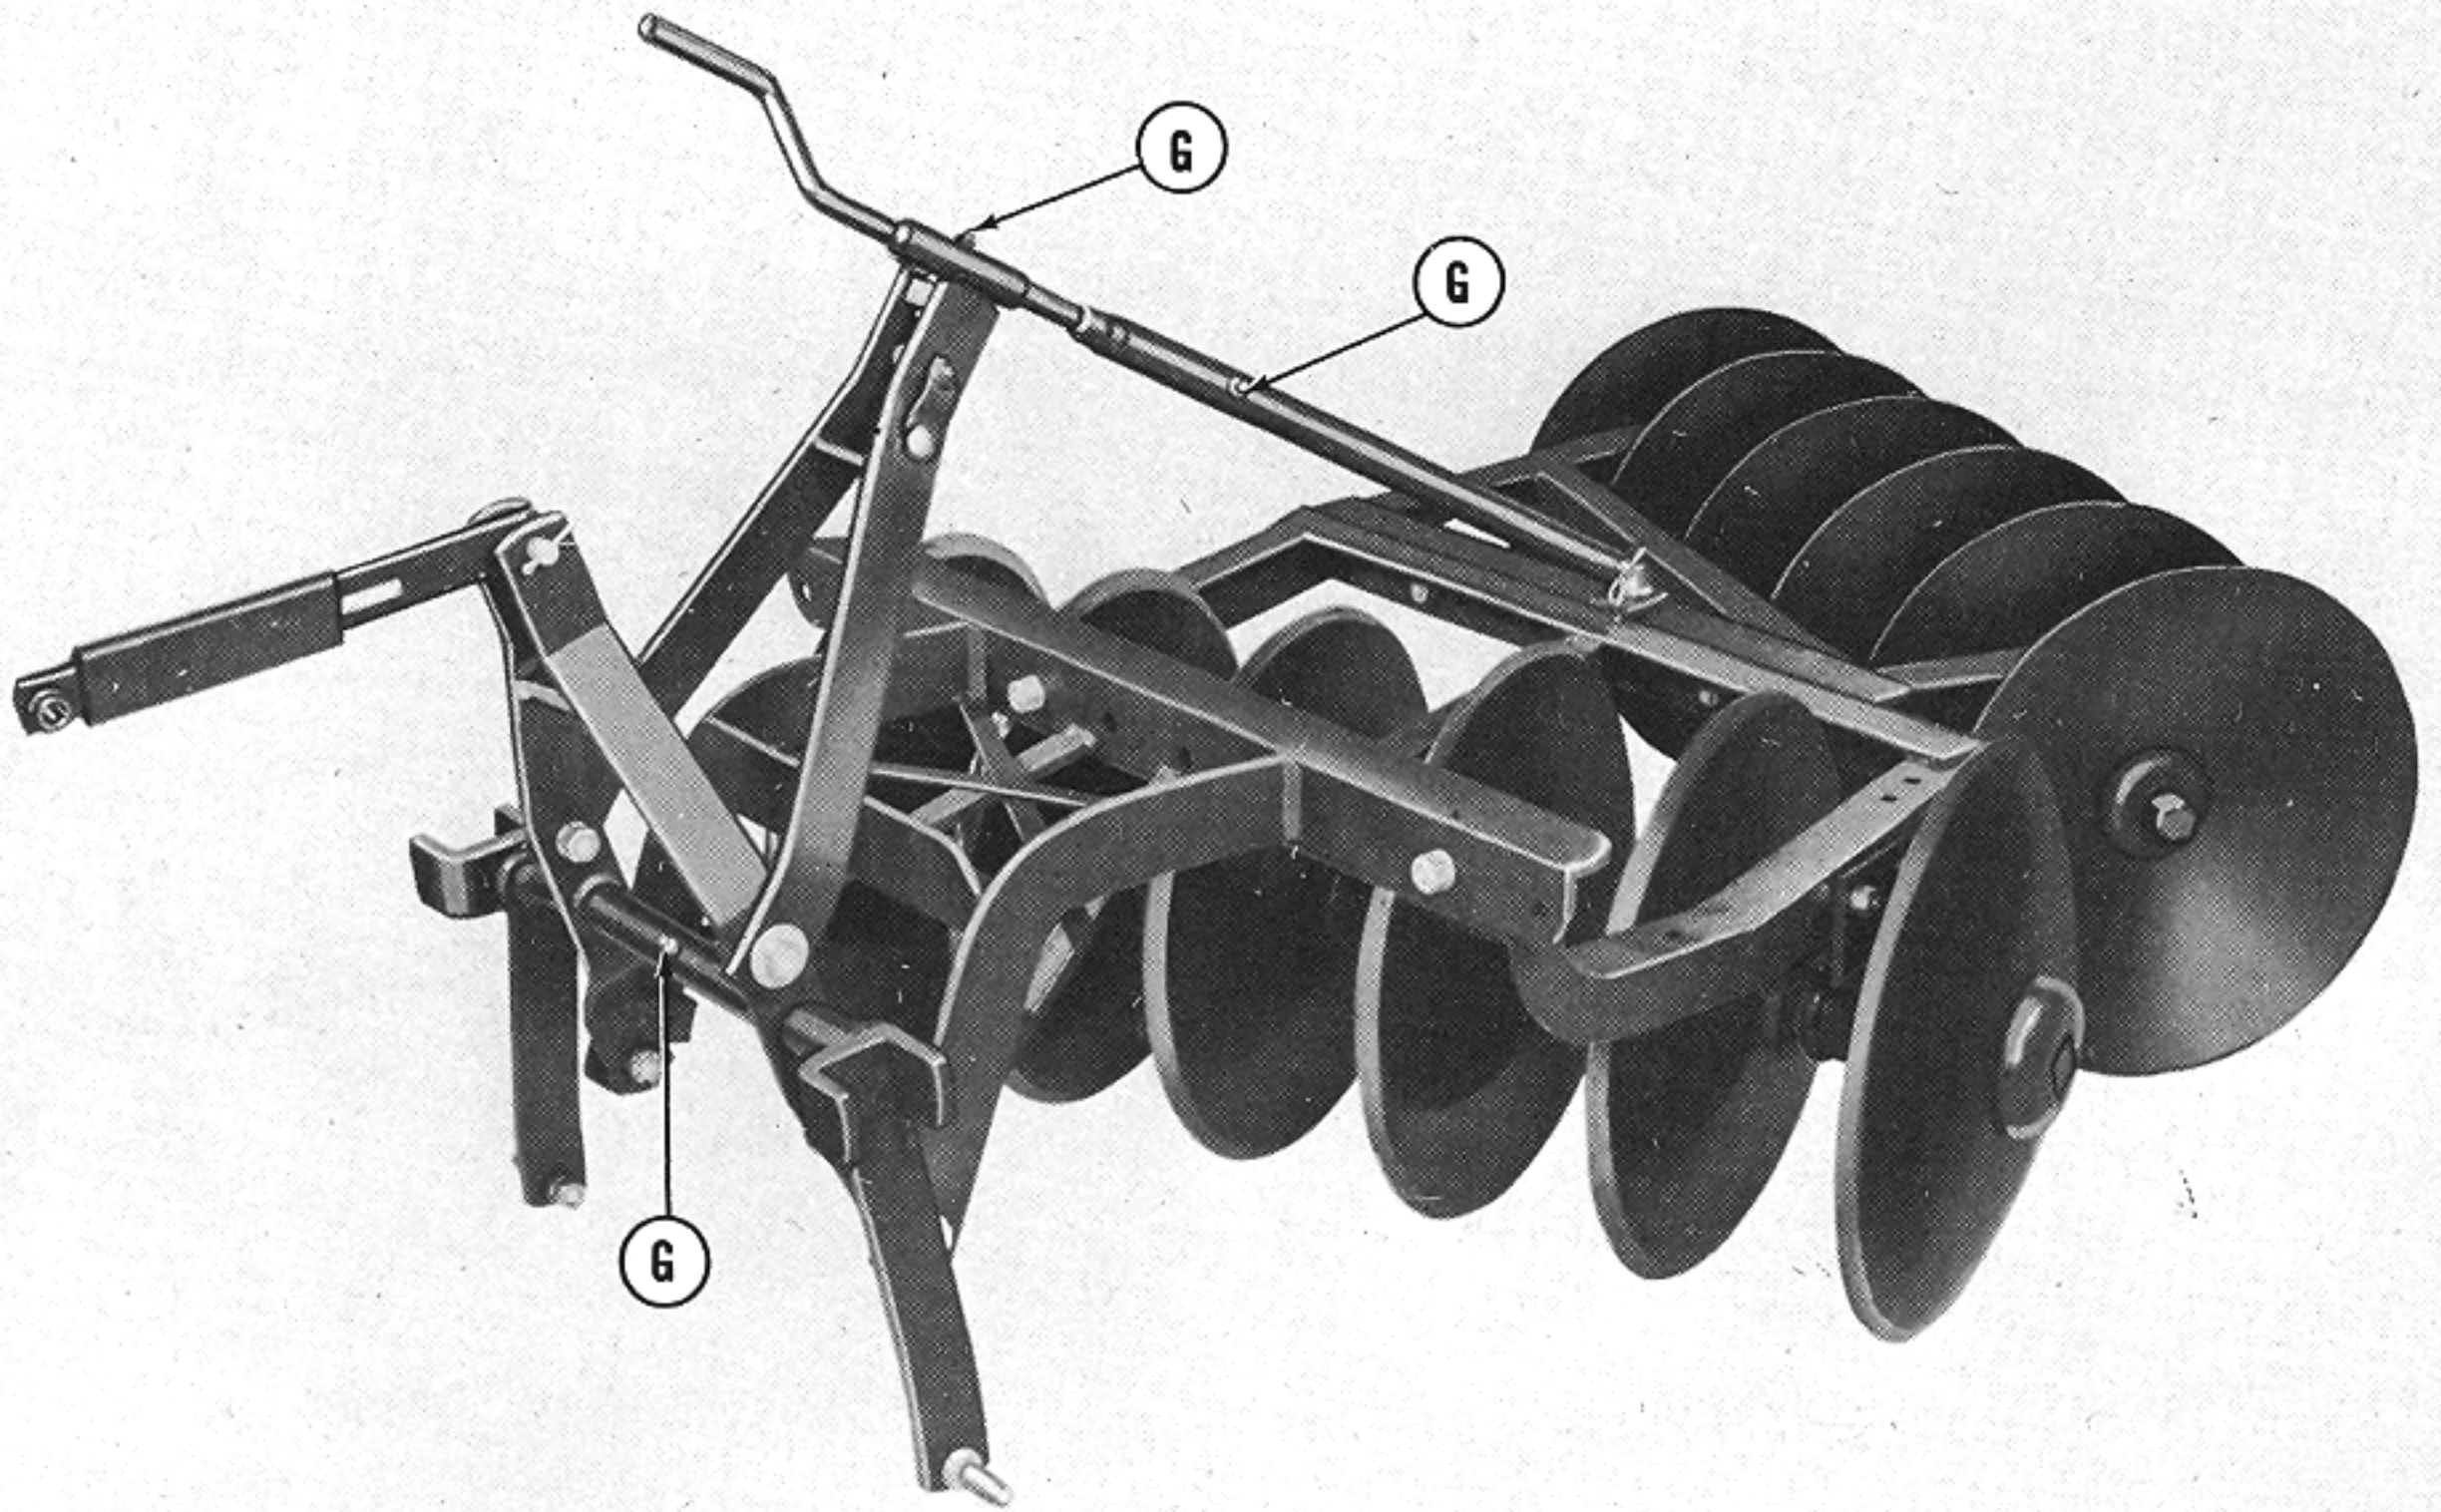

Figure 14
1. *Plain metal bearings.* There are seven lubrication fittings on the plain bearing model disc harrows. Four of these fittings (one on each disc gang bearing box) should be greased once a day with a good grade of gun grease when the implement is in use. The other three fittings (marked "G" in Figure 14) should be lubricated occasionally to keep the parts operating satisfactorily. Wipe the fittings clean before lubricating to give a good pressure gun fit and to prevent outside dirt from being forced into the bearings. Force enough grease into the bearings
The three fittings marked "G" in Figure 14 should be lubricated occasionally to keep the parts operating satisfactorily.